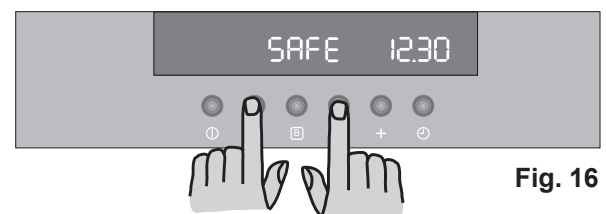

Fig. 16
- 2) Press buttons  and "-" at the same time and keep them pressed for about 3 seconds. An acoustic signal will be emitted and the indication 'SAFE' will appear on the display (Fig. 16).